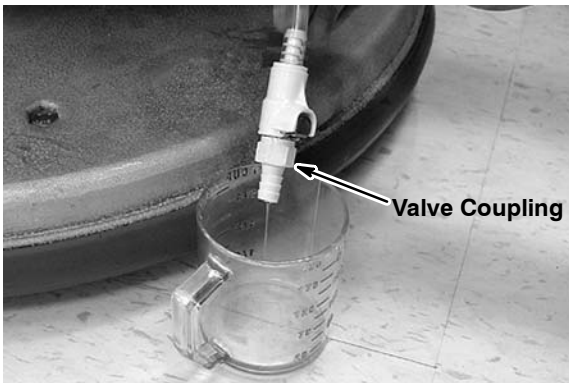

FIG. 60
2. Connect the valve coupling (purchased part) to the supply hose and drain the remaining concentrate into a small container (Figure 60). Squeeze the supply hose several times if the concentrate does not flow.